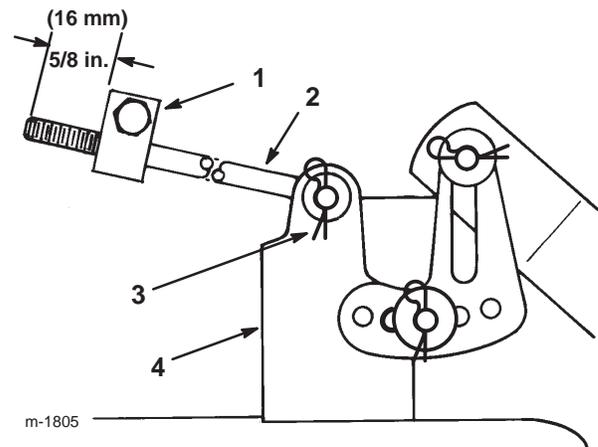

Figure 52
- Measure the length of the rod extending out of the front of the adjusting block on the sides of the chassis (Fig. 52).
Note: If the rod length is not 5/8 in. (16 mm), remove the hairpin cotter and washer from the end of the rod (Fig. 52) and turn the rod until you obtain the 5/8 in. (16 mm) dimension.